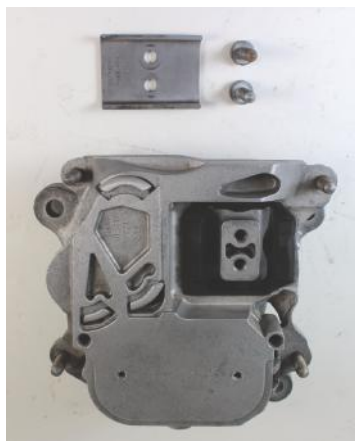

Figure 2: Remove mount plate and screws
3. Remove the 2 screws from the lower transmission mount plate with a SP10 Spline bit and remove the plate (Figure 2)